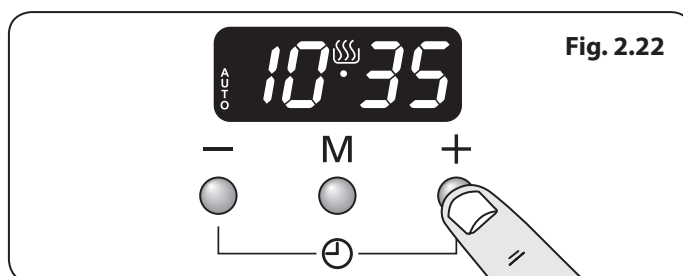

Fig. 2.22
2. Select the 'stop time' using the [+] or [-] buttons. The display will show the current time along with the AUTO and Cooking symbols **(Fig. 2.22)**.